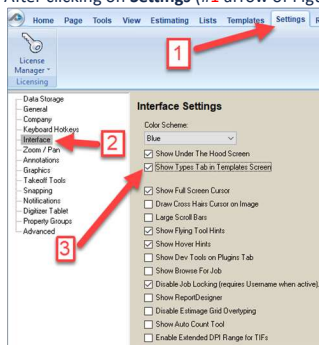

Figure 2
2. After clicking on **Settings** (#1 arrow of Figure 2), click on **Interface** (#2 arrow), then click the checkbox for **Show Types Tab in Templates Screen** (#3 arrow).